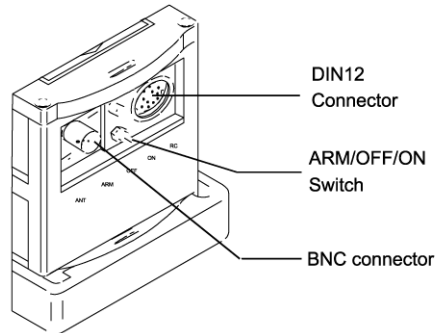

Figure 207: Installation, controls and connectors
- Connect the external antenna to the BNC connector (Refer to Figure 207: Installation, controls and connectors) as shown Figure 2: ELT system description page 3.
- Connect the Remote Control Panel (or CS144) to the DIN12 connector (Refer to Figure 207: Installation, controls and connectors) as shown Figure 2: ELT system description page 3.
- Set the 3-position switch (Refer to Figure 207: Installation, controls and connectors) to ARM.
- Switch the ELT to OFF (Refer to Figure 207: Installation, controls and connectors).
- Disconnect the Remote Control Panel (or CS144) from the DIN12 connector (Refer to Figure 207: Installation, controls and connectors).
- Disconnect the outside antenna from the BNC connector (Refer to Figure 207: Installation, controls and connectors).